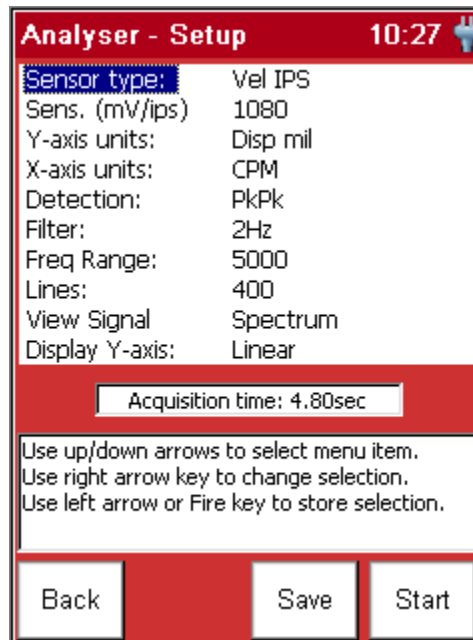

Figure 2 – Imperial Displacement (Mils) 258 Setup for 544/546
3. For **Imperial** measurements in mils peak to peak (1/1000 inch), set the parameters in **bold** type as listed below. The other parameters may be set as desired by the user. See Figure 2 for a screen display of a typical Imperial setup.